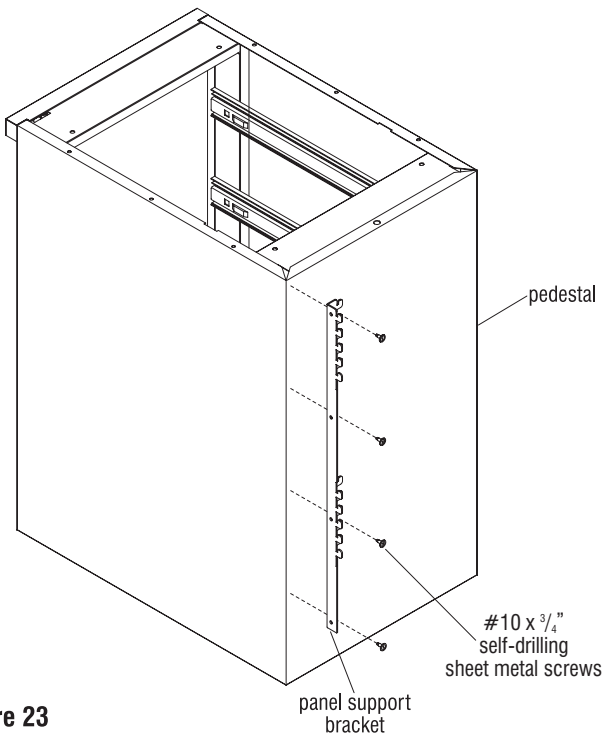

Figure 23
1. Position the panel support bracket squarely along the top and side edge of the pedestal as shown, making sure that the teeth are facing up (Figure 23).
**Note:** For left-hand installations align the bracket with the left side of the cabinet. For right-hand installations align the bracket with the right side of the cabinet (Figure 23).
2. Using the four #10 x 3/4" self-drilling sheet metal screws, carefully secure the bracket to the cabinet (Figure 23).